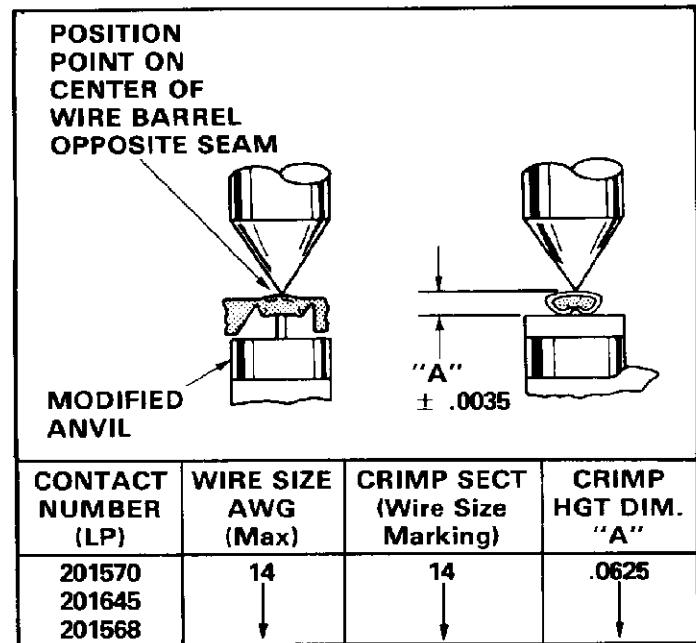

Fig. II-2
This inspection requires the use of a micrometer with a modified anvil as shown in Figure II-2. We recommend the modified micrometer (Crimp Height Comparator RS-1019-5L) which can be purchased from:
1. Refer to the chart in Figure II-2, and select a contact and a wire (maximum size) for the crimp section listed in the chart.
3. Using a crimp height comparator, measure wire barrel crimp height as shown in Figure II-2. If the crimp height conforms to that shown in the chart, the tool is considered dimensionally correct. If not, the tool must be repaired (see Paragraph II-3, REPAIR).
1. Select a contact and wire (maximum size) for the tool (see Figure II-2).